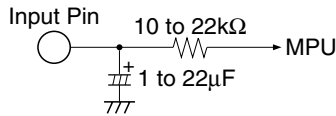

Figure 2 Interface for Reduction of Pop Noise
3. Reducing pop noise is so much better for 10 kΩ to 22 kΩ resisitor and 1 μF to 22 μF capacitor shown figure 2.